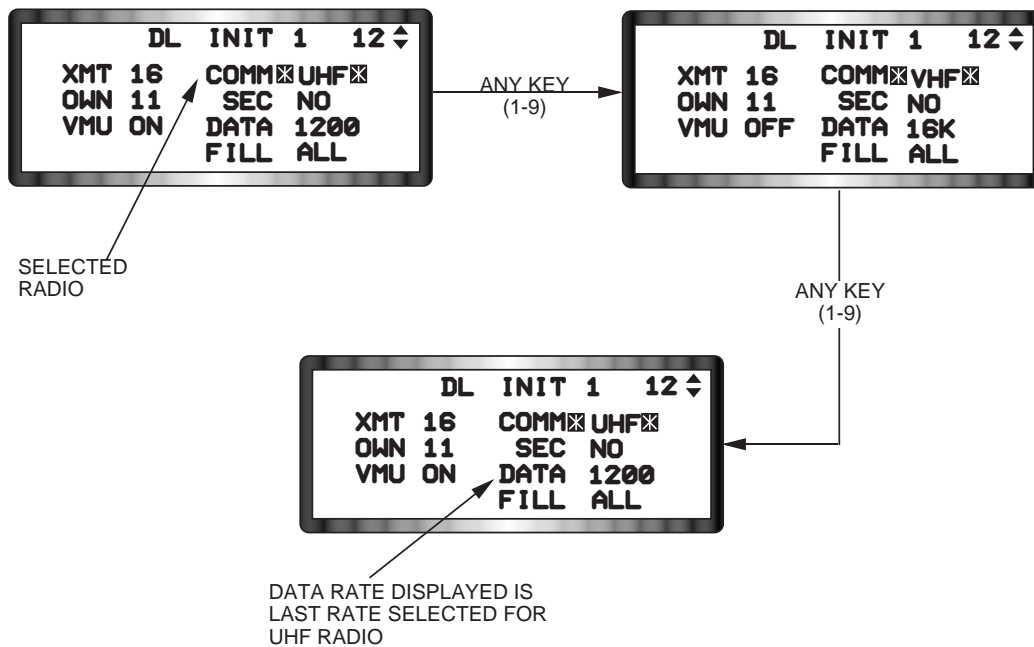

Figure 1-64 Radio Selection
**Radio Selection.** The COMM field on the DL INIT 1 page is used by the pilot to select the radio for transmitting data link information. Pressing any key 1 through 9 with the asterisks around the COMM entry field will rotary the selected radio between UHF and VHF (See Figure 1-64). Data rate and radio type are stored